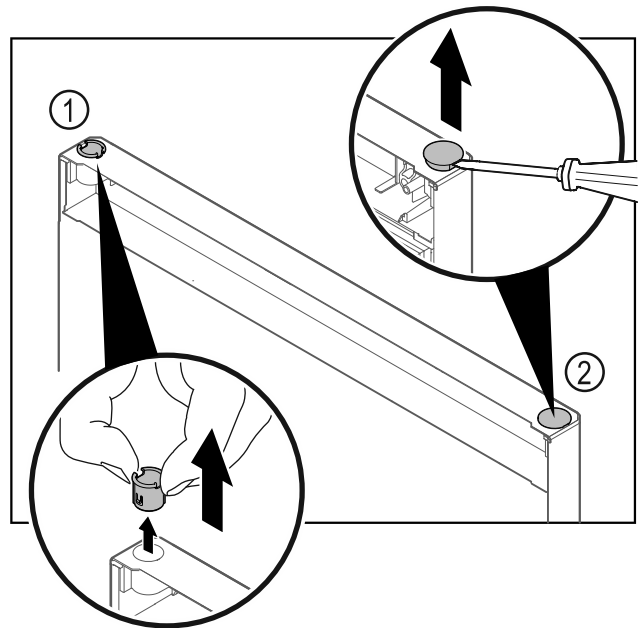

Fig. 28
- ▶ Pull out the hinge bushing Fig. 28 (1) with your fingers.
- ▶ Carefully lift the cover plug Fig. 28 (2) with a slotted screwdriver and pull it out.